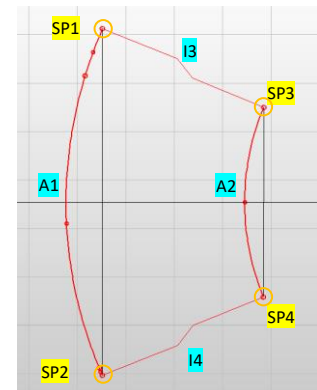

Figure 43
7. **BREAK:** The Bulkhead cut should be divided into four segments (Figure 43): One outer arc segment on the left **A1**, another inner arc segment on the right **A2**, and the two symmetrical interface segments, one at the top **I3** and one at the bottom **I4**.
- Select the geometry and position the first split point **SP1** on the top left (Figure 43).
- Place the second split point **SP2** on the bottom left (Figure 43).